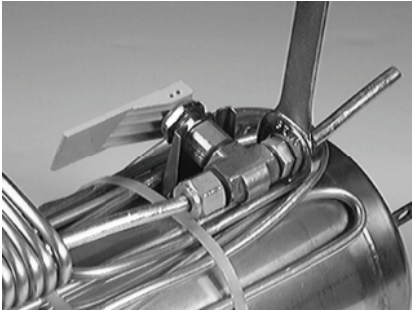

Figure 19: Vent Extension Tube Removal
- 2) Use a 9/16 inch open-end wrench to disconnect the 1/4inch tube nut that connects the vent extension tube to the vent valve (Figure 19).